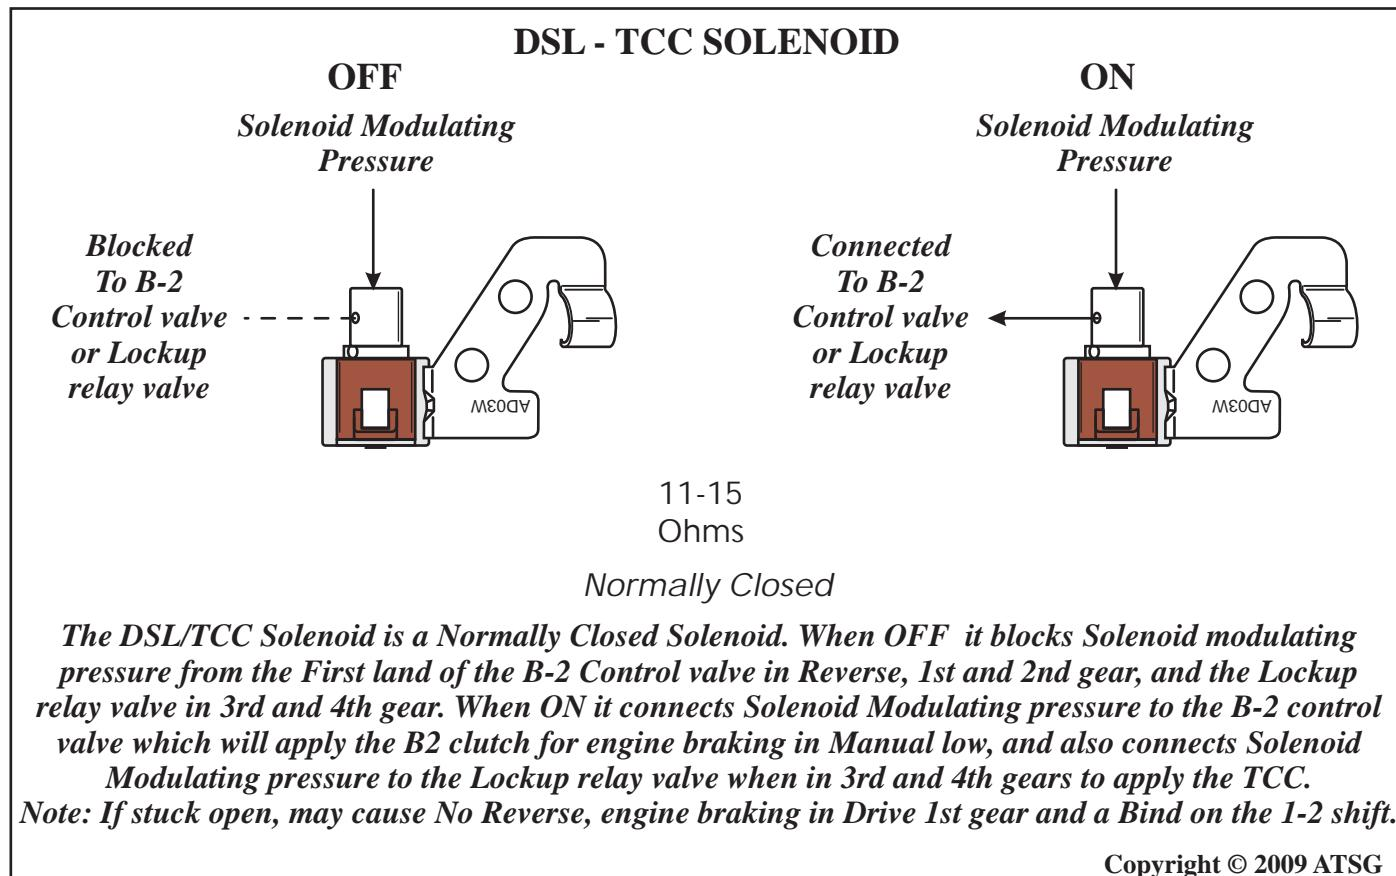

Figure 136
32. Refer to Figure 136 to check the DSL solenoid and its mechanical function. Figure 136 will also show the ohm value and its hydraulic function.